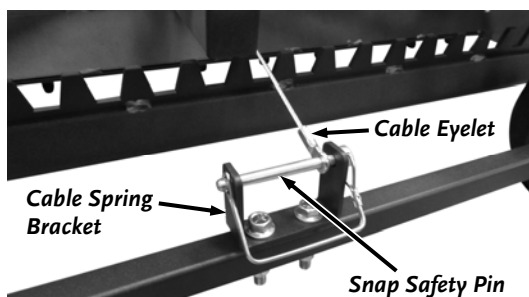
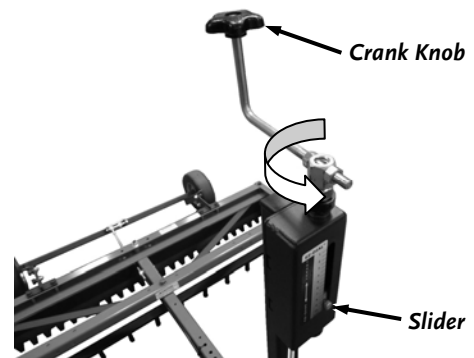
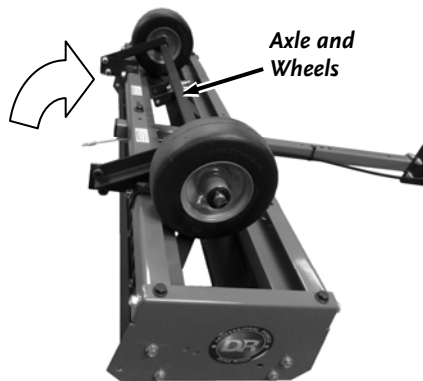

Figure 37
Figure 33
Figure 40
1. Rotate the Crank Knob counterclockwise until the Slider is at the bottom of the scale to lower the machine and take all of the weight off the Wheels (**Figure 33**).
1. Fully raise the Wheels (**Figure 33**) and remove the Snap Safety Pin from the Cable Spring Bracket to rotate the Axle Assembly out of the way (**Figure 37**).
5. You can reinstall the Snap Safety Pin (**Figure 37**) so you can raise the Grader when needed or you can rotate the Axle so it is resting on top of the Grader (**Figure 40**) to prevent the Wheels from leaving marks in finer materials.